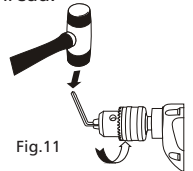

Fig.11
7. Insert the hex key into the chuck and tighten the jaws of the chuck securely (fig. 11). Tap the hex key sharply with a mallet in a COUNTER-CLOCKWISE direction.